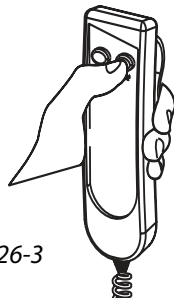

Figure 26-3
8. Press the DOWN button until the lift's tower has moved out of the vehicle. [Figure 26-3]